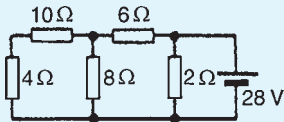

Figure 13.51
- In the network shown in Fig. 13.51, the battery has negligible internal resistance. Find, using Thévenin's theorem, the current flowing in the $4\ \Omega$ resistor. [0.918 A]